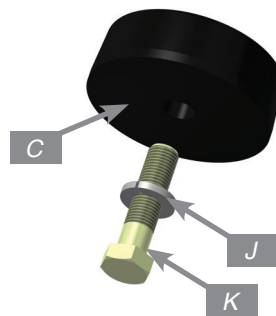

fig. 16
- Seat the air spring within the lower control arm/roll plate and align the threaded center of the air spring with the lower spring seat. Apply a long bolt (K) and lock washer (J) through the centering spacer (C) and into the underside of the control arm (Fig. 16). Thread the bolt into the air spring (Fig. 17), and torque to 27Nm (20 lb.-ft.).